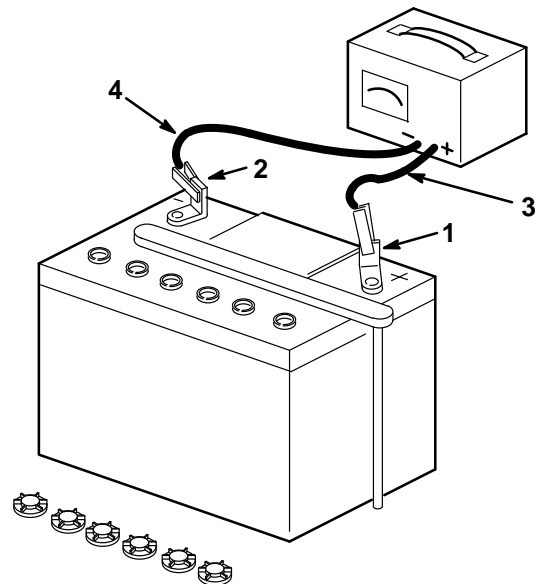

Figure 6
3. Leave the filler caps off and connect a 3 to 4 amp battery charger to the battery posts (Fig. 6). Charge the battery at a rate of 4 amperes or less for 4 hours (12 volts).
4. When the battery is fully charged, disconnect the charger from the electrical outlet and from the negative and positive battery posts (Fig. 6).